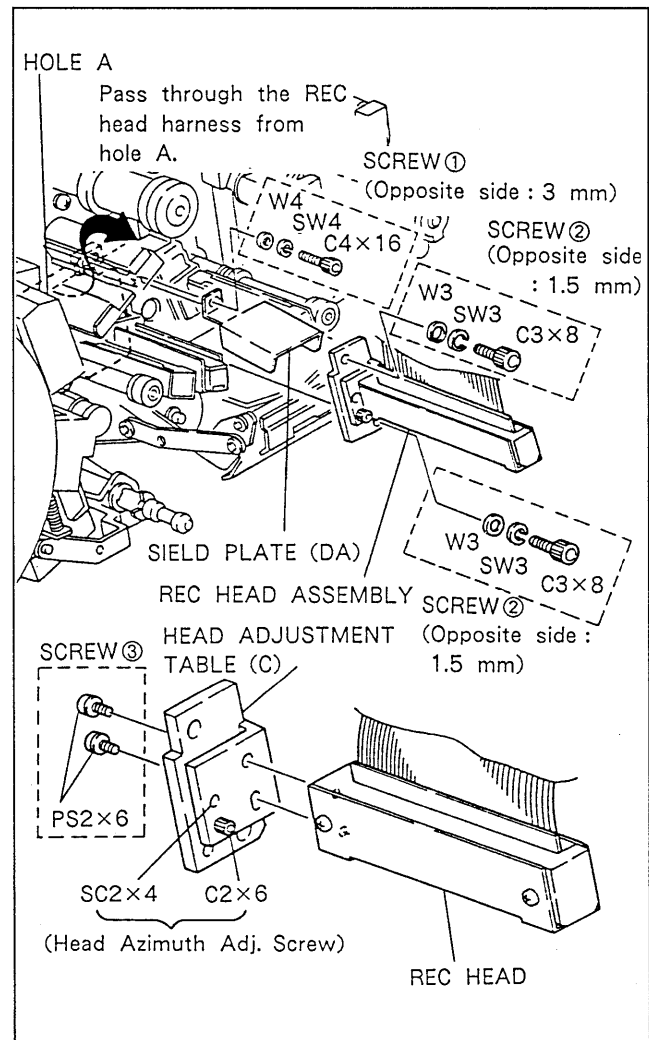
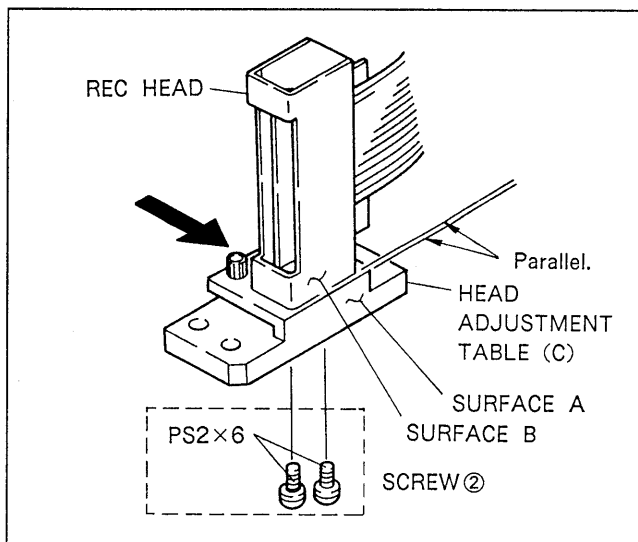

Fig. 6-16-2. REC Head Assembly Replacement
Fig. 6-16-4. REC Head Mounting Position Adjustment
3. Remove screw ① (including spring washer and flat washer) and remove the shield plate (DA) shown in Fig. 6-16-2.
- Secure the REC head temporarily onto the head adjustment table (C) with two screws ② shown in Fig. 6-16-4 (Once tightening the two screws and then loosen for 1/4 to 1/2 rotation.).
- Push the REC head to the direction of arrow and tighten two screws ② where the edge surface B of the REC head becomes visually parallel with the edge surface A of head adjustment table (C).
- Pass the REC head harness through the hole A shown in Fig. 6-16-2.
- Secure the shield plate (DA) with screw ① (including spring washer and flat washer) as shown in Fig. 6-16-2.